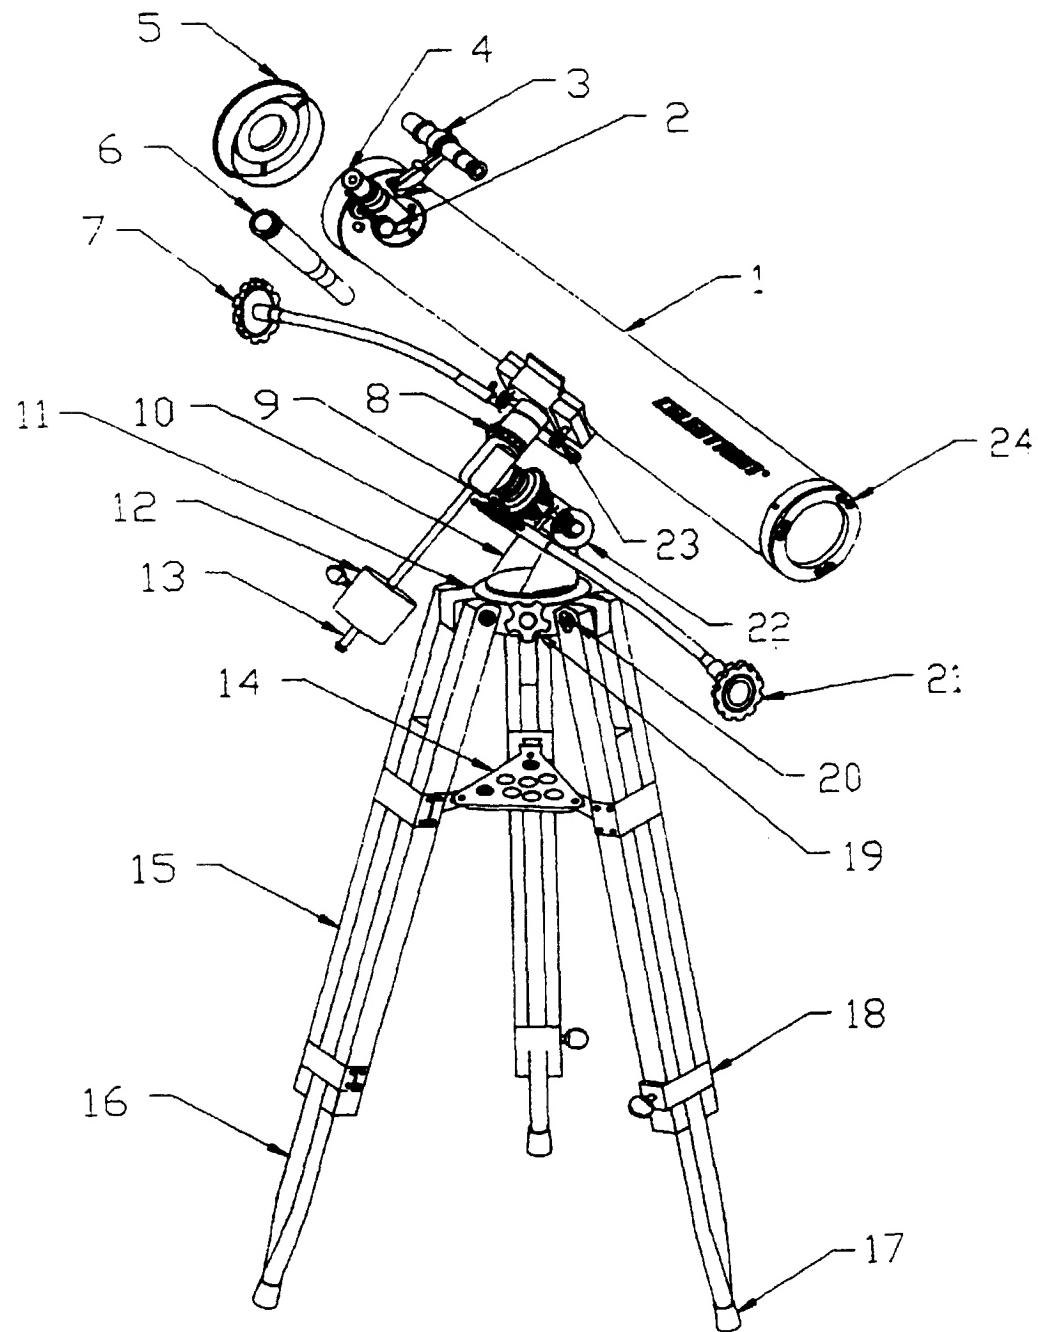
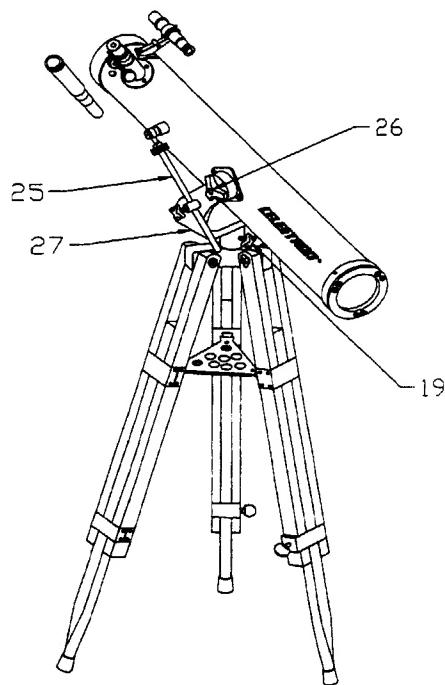

Figure 1
FIGURE 2
NOTE: Tripod and tube parts are the same as for the equatorial mount in Figure 1. Only those items that are different are labeled.
This manual covers both the equatorial mount models (see Figure 1) and the altazimuth mount models (see Figure 2). The altazimuth mount is the simplest and easiest type of mount to use with two motions—altitude (up and down) and azimuth (side-to-side). The equatorial mount is more expensive and contains setting circles and slow motion cables to make it easier to locate and track astronomical objects.
Please refer to Figure 1 (and the identifying parts list) as you assemble the telescope.
3. a) Attach the equatorial mount (#10) to the tripod as shown in Figure 1.
B. Before proceeding further, locate knobs #19 and #22 and tighten them finger tight after orienting the mount as illustrated in Figure 1 — for equatorial mounts only.
4. Slide the counterweight shaft (#13) through the counterweight (#12). Use the counterweight lock to lock the counterweight in place. By holding the counterweight in one hand, thread the counterweight shaft clockwise into the equatorial mount as shown in figure 1.
1. Remove the nuts from the tube mounting screws (#23). Put the bolts from the tube, as shown in Figure 1 (#23), into the bracket at the top of the mount and tighten the nuts.